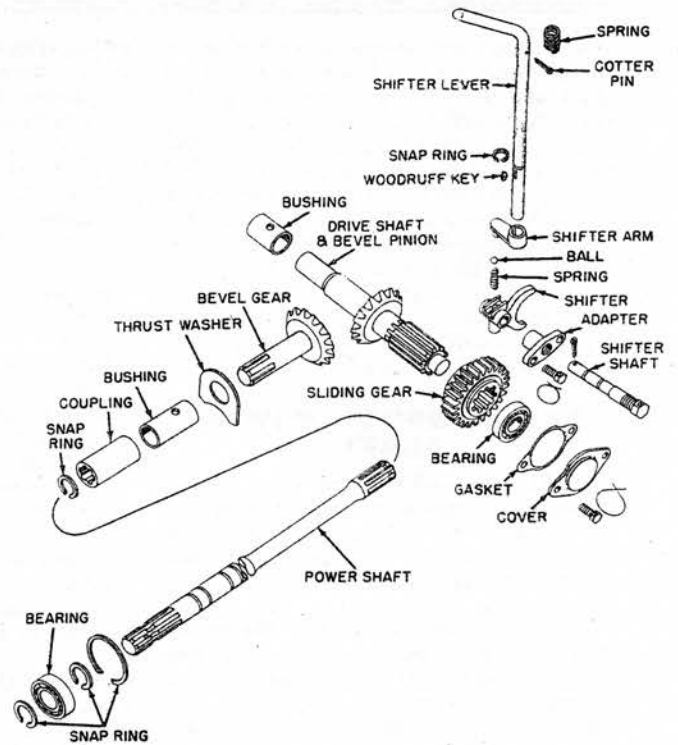

Fig. 35B Exploded view of Model 60 transmission-driven power shaft. Model 50 is similar
**INSTALLATION**—Referring to Fig. 35B, press the bearing on the power shaft and secure it in place with snap rings. Install a new oil seal in the bearing housing with lip pointing toward the transmission. Slide the bearing housing on the power shaft, protecting oil seal by wrapping a thin piece of shim stock around the splines on the shaft. Install snap ring in bearing housing.